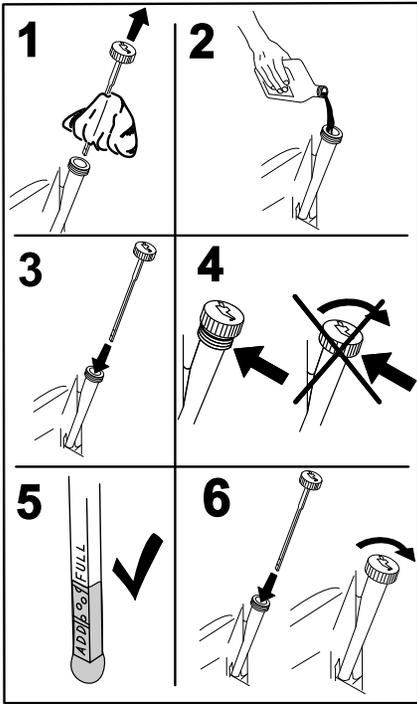

Figure 48
- Slowly pour approximately 80% of the specified oil into the filler tube and slowly add the additional oil to bring it to the **Full** mark (Figure 48).